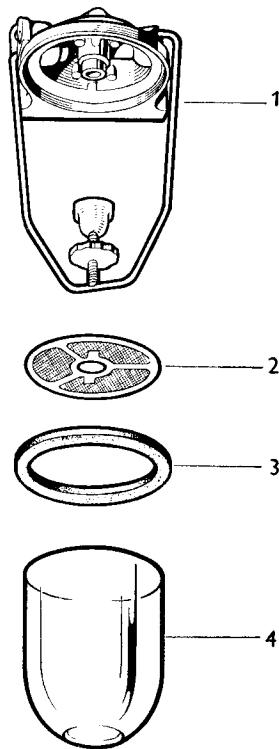

Fig. 2. Fuel feed line filter.
At the recommended intervals, or more frequently if the glass bowl shows signs of becoming full of sediment, slacken the locking nut, swing the retaining clip to one side and remove the bowl (4) (Fig. 2), sealing washer (3), and filter gauze (2).